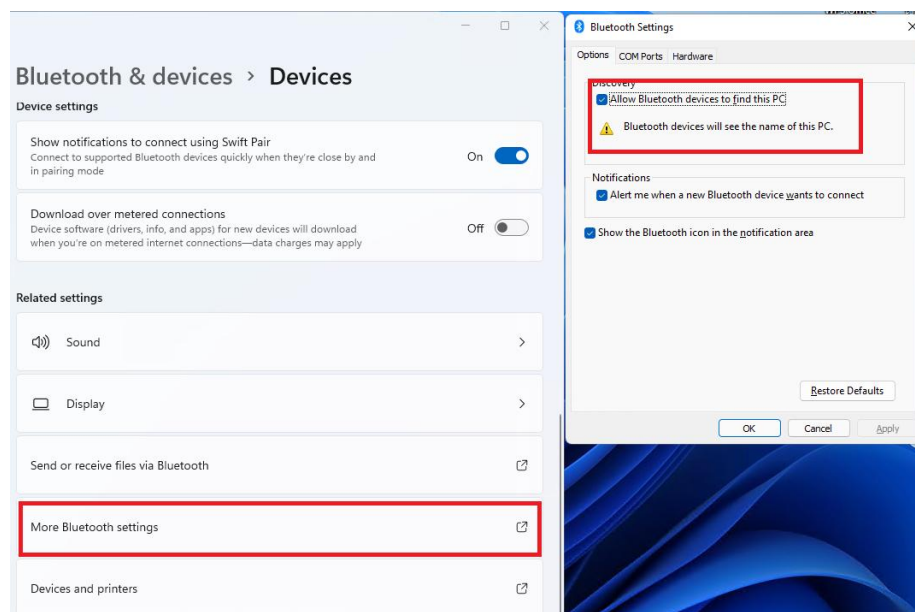

Fig.2
1.2 After Bluetooth is turned on on the PC to get more Bluetooth options in Bluetooth Settings to set the visibility of the terminal to the device. Fig. 2: